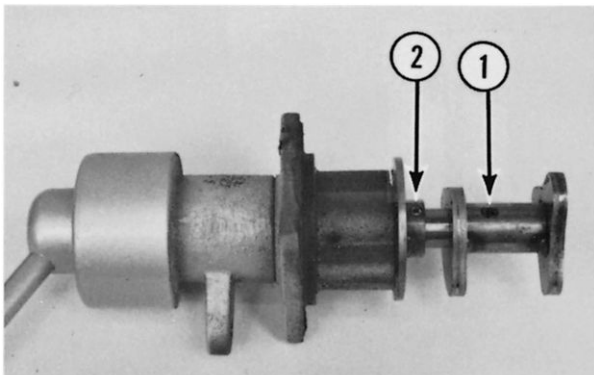

**Fig. 11-14**
- D. Install the lower bearing lower spacer (4, Fig. 11-13) and the roller bearing (1, Fig. 11-14).
- E. Install the key (2, Fig. 11-14) and the sun gear (3, Fig. 11-14). (Collar toward the bearing.)